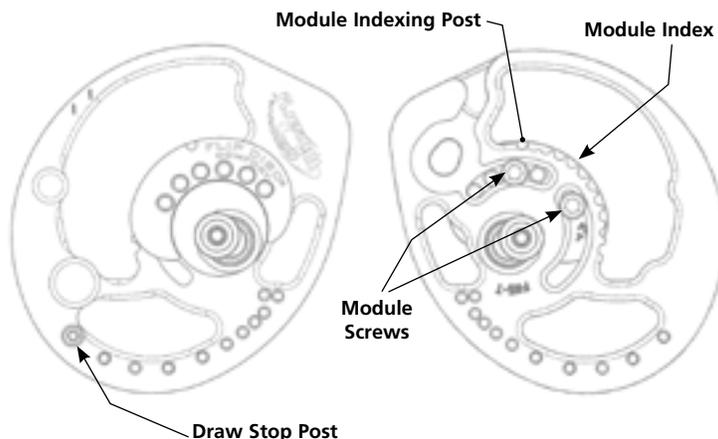

Figure 1: OverDrive Binary Draw Length Adjustment
Refer to **Figure 1** and **Chart 1 & 2**
10. Your Bowtech Fanatic 2.0 is equipped with three draw stop posts that allow for adjustable let off (**see figure 1**). The let off on your bow can be adjusted easily to your preference by simply choosing the smallest post will give you maximum let off and extended valley. The largest post will shorten the valley to its shortest setting and decrease effective let off for those archers that prefer a back tension release or similar style release method. The medium post is a comfortable balance between the high and low settings. To set let off properly, both draw stops need to be in the same setting.